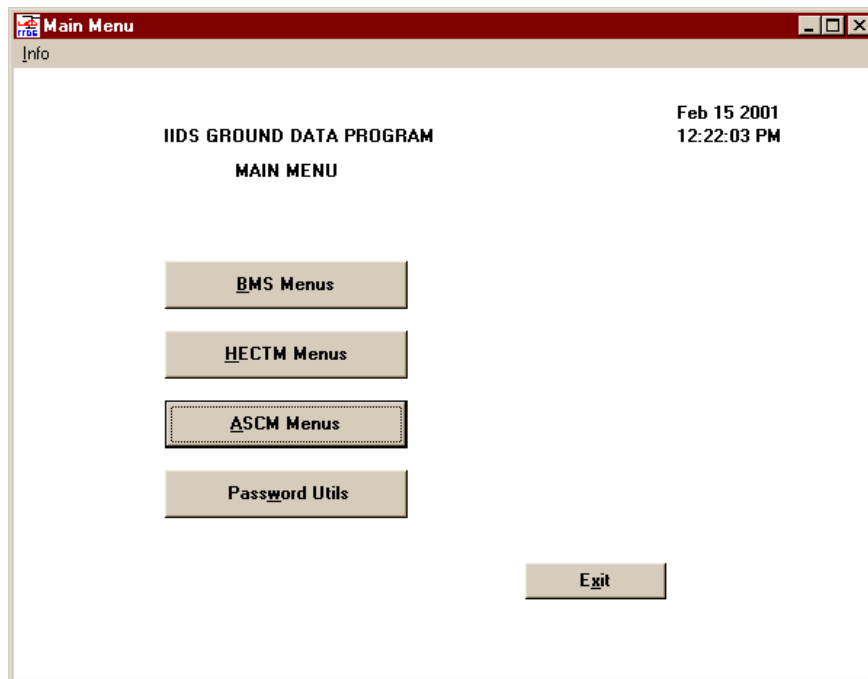

Figure 53. GBMC Main Menu
1. Select HECTM Menu from the GBMC Main Menu (refer to Figure 53).